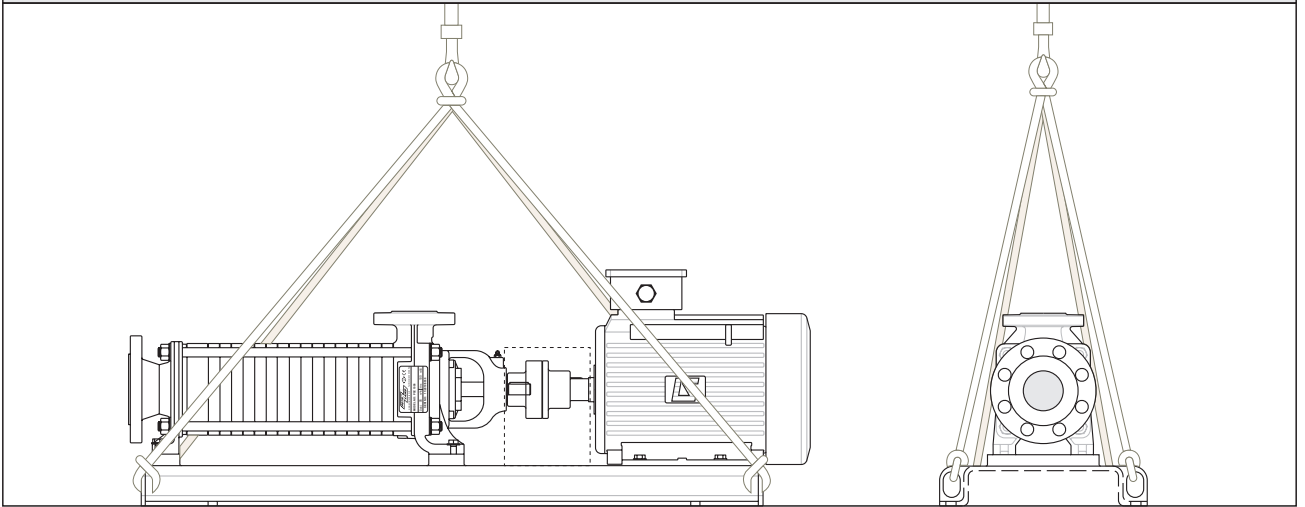

Figure 5: Pump Lifting Instructions
- Lift of the pump shall be performed in conformity with the lifting instructions (*See Figure 5*).